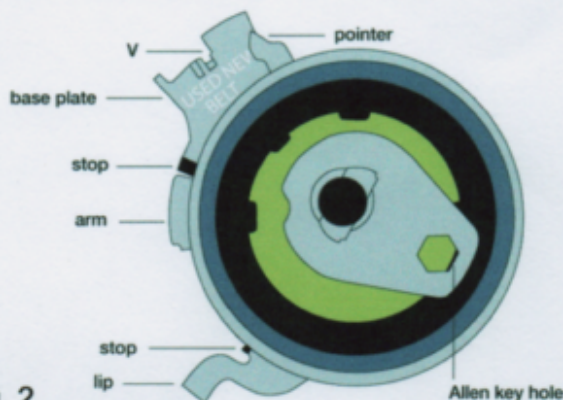

Fig. 2
8. Turn tensioner (with Allen key) anti-clockwise (while holding the bolt in place) till pointer is in line with (not passing) right hand side of base plate (fig. 2)